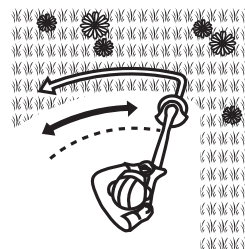

Fig. 9
5. Move the product with a slow regular arc from left to right before moving it back to the starting position before trimming the next area (Fig. 9).